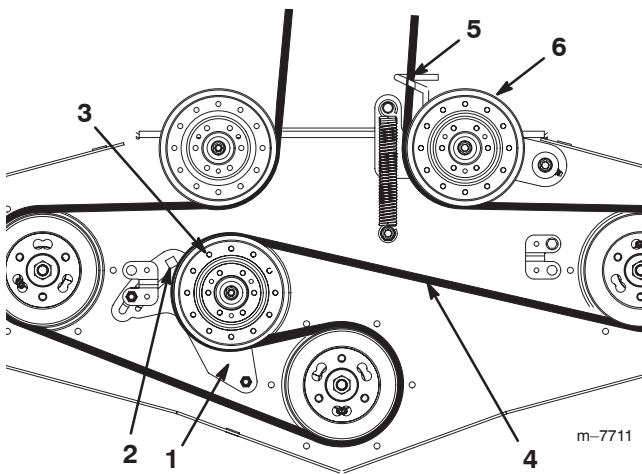

Figure 57
4. Loosen the fixed idler arm and adjust it to relieve the belt tension on the fixed idler pulley (Fig. 57).
6. Install the new belt through the belt guide and on the pulleys (Fig. 57).